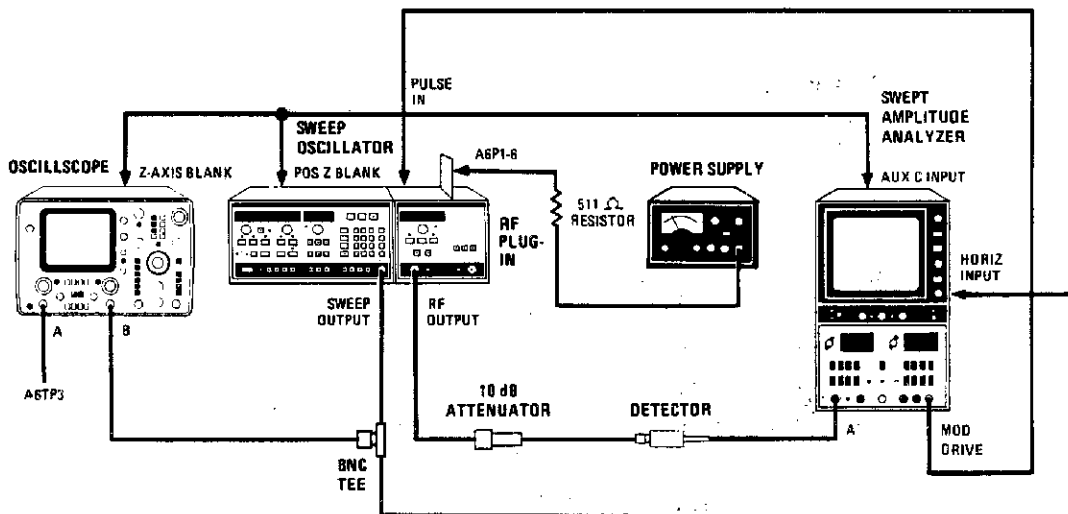

Figure 5-21. SRD Bias Adjustment Setup
1. Connect the equipment as shown in Figure 5-21 with the 83592C A6 Sweep Control board on an extender. Do not connect the power supply. With the LINE power OFF, remove the 83592C A4 ALC board. Connect the 8755C MODULATOR DRIVE output to the 83592C rear panel PULSE IN connector.
9. Set up the equipment as shown in Figure 5-21, with a 511 ohm resistor connected to A6P1-6 (reference to ground). Remove the 83592C A4 ALC board. Connect the 8755C Swept Amplitude Analyzer MODULATOR DRIVE output to the 83592C rear-panel PULSE IN connector.
16. Set A6R12 (C) to a centered position and then adjust to peak the power between 6.9 and 20 GHz. Using the voltage source, keep the RF power at or near 10dB above the noise floor, then repeak A6R12 (C). If the power of the sweep drops at any frequency, maximum peaking has been exceeded.